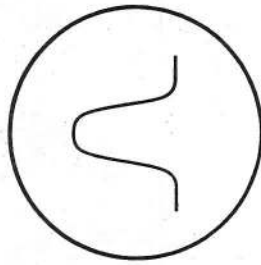

FIG. 1
| .1 MFD. | High side to Pin 1 (grid) of 12AW6. Low side to B-. | 9.11KC (Freq. Mod) | FM | Tuning cap. fully closed | Vertical input to Point 1. Ground to B-. | A8, A9, A10, A11, A12 | Disconnect 5 MFD cap. (10) from Point 1. Adjust for maximum amplitude, symmetry and coincidence of pattern per Fig. 1. |